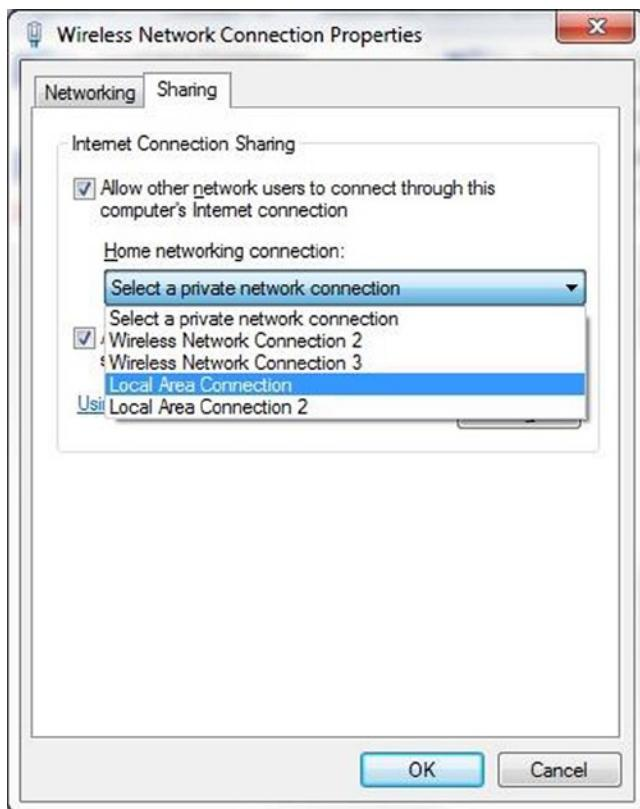

Figure 5-9. Sharing the Internet connection
7. To share the Internet connection, access your adapters again by choosing Control Panel ▶ Network and Internet ▶ Network and Sharing Center and clicking Change Adapter Settings. But now, right-click in the adapter of your computer that provides Internet access to you and select Properties. Then click in the Sharing tab and check the option to share the Internet in the listbox. Figure 5-9 shows an example that uses a wireless adapter to access the Internet and a Local Area Connection for Intel Galileo.